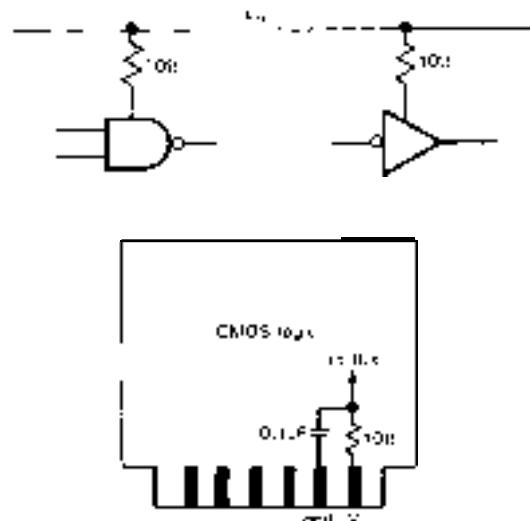

Figure 14.39. Supply current sensing ("current spy").
7. Put current-sensing resistors in the  $V_{DD}$  lead. In certain failure modes (see below), particularly those caused by static damage, a CMOS chip may draw excessive quiescent current; a 10 ohm resistor in series with  $V_{DD}$  on each board (bypass the load side) makes it easy to see if that is happening. Putting such a resistor on each chip (usually no need to bypass in this case) allows you to locate the bad chip quickly (Figure 14.39).